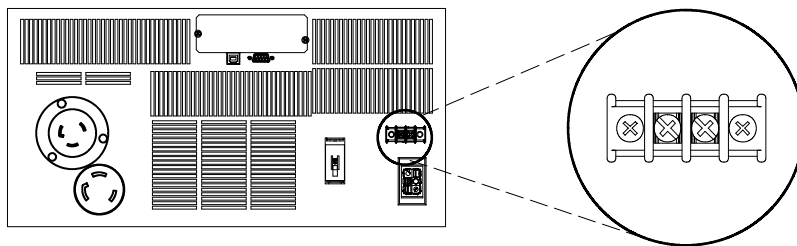

Figure 9. REPO Connector
2. Connect the switch or circuit to the REPO connector on the UPS rear panel using insulated 18–20 AWG (0.75 mm²–0.5 mm²) wire. See Figure 9.